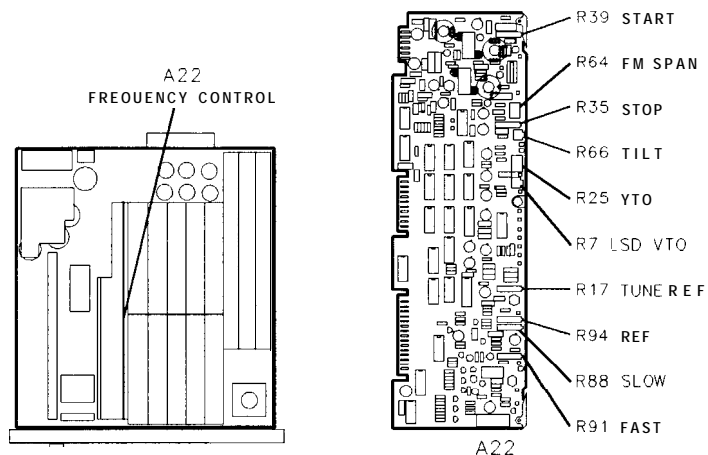

Figure 3-71. Location of Frequency Control Adjustments
See Figure 3-71 for location of adjustment.
6. Adjust A22 TUNE REF A22R17 for DVM indication of -10.285 ± 0.001 V dc. See Figure 3-71 for location of adjustment.
16. Connect DVM to A22TP6 and ground to A22TP12. If using an HP 3456A DVM, press (STORE) (7)^Z, (ENTER EXP) (8)^Y, (0), (STORE) (8)^Y, then (MATH), (7) (X-Z)/Y. If not using an HP 3456A DVM, note voltage indication for reference later.
18. Adjust A22 YTO A22R25 for DVM indication of + 10.230 ±0.001 V dc. If not using an HP 3456A DVM, adjust for specified voltage plus the DVM indication noted in step 16. See Figure 3-71 for location of adjustment.
19. On the HP 3456A, Press (MATH) (0) OFF.
21. Key in [SHIFT] (CF STEP SIZE)^J 0 Hz. If using an HP 3456A DVM, press (STORE) (7)^Z, (ENTER EXP) (8)^Y, (0), (STORE) (8)^Y, then (MATH), (7) (X-Z)/Y. If not using an HP 3456A DVM, note voltage indication for reference later.
23. Adjust A22 LSD VTO A22R7 for DVM indication of +0.0218 ±0.0001 V dc. If not using an HP 3455A DVM, adjust for specified voltage plus the DVM indication in step 20. See Figure 3-71 for location of adjustment.
27. Adjust A22 START A22R39 for frequency counter indication of 2.050 GHz ± 0.002 GHz. See Figure 3-71 for location of adjustment.
29. Adjust A22 STOP A22 STOP A22R35 for frequency counter indication of 3.7891 ±0.002 GHz. See Figure 3-71 for location of adjustment.
32. Adjust A22 FM SPAN A22R64 so that the LO Feedthrough signal is centered on the left edge graticule and the 20 MHz CAL OUTPUT signal is centered on the right edge graticule. See Figure 3-71 for location of adjustment.